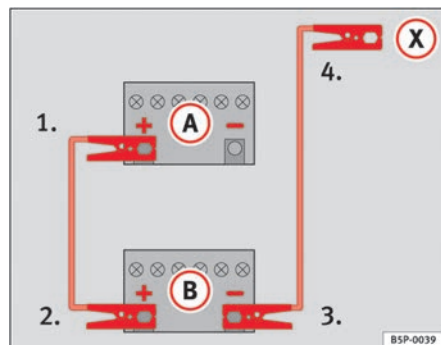

Fig. 197 How to connect the jump leads
⇒ fig. 197 (A) shows the flat battery and (B) the charged battery.
1. Connect one end of the red jump lead to the positive (+) terminal of the vehicle with the flat battery ⇒ fig. 197 (A).
4. Connect the other end of the black jump lead (X) to a solid metal component which is bolted on to the engine block, or onto the engine block itself of the vehicle with the flat battery. Do not connect it to a point near the battery ⇒ ⚠.